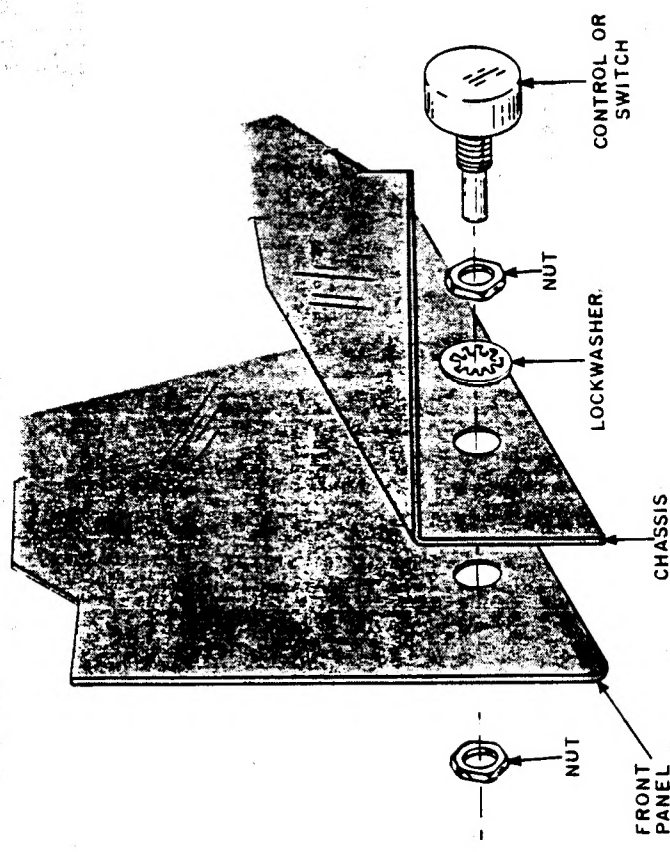

FIGURE 7. HOW TO MOUNT THE PANEL WITH A CONTROL OR SWITCH
- () Mount S-1, the band switch, in the large hole on the left front of the chassis and the panel. The three terminals must be toward the open side of the chassis. Screw a large nut over the threaded hushing several turns, place one of the large lockwashers on the shaft, and insert the shaft through the hole in the chassis and the hole in the panel. Tighten another large nut over the threaded hushing. See Figure 7.